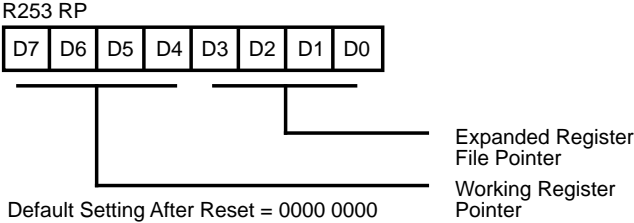

Figure 15. Register Pointer Register
**Register File.** The register file (group 0) consists of four I/O port registers, 236 general-purpose registers, and 16 control and status registers (R0-R3, R4-R239, and R240-R255, respectively). Plus two expanded registers groups (Banks D and F). Instructions can access registers directly or indirectly through an 8-bit address field. This allows a short, 4-bit register address using the Register Pointer (Figure 15). In the 4-bit mode, the register file is divided into 16 working register groups, each occupying 16 continuous locations. The Register Pointer addresses the starting location of the active working register group. **Note:**